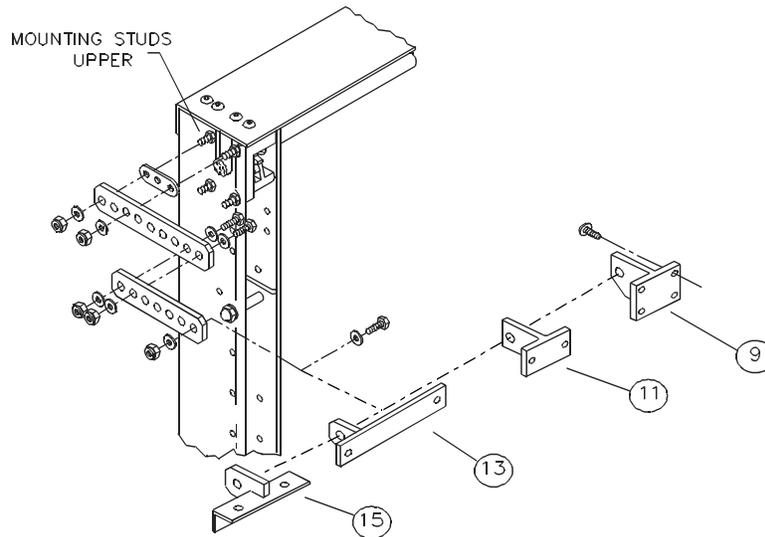

FIGURE 2-14: INTERMEDIATE AND MOUNTING BRACKET INSTALLATION
- d. For vans with sliding door installation, refer to **Figure 2-14**. With 5/16-18 hex bolts, 5/16 flat washers, and 5/16-18 self-locking nuts, loosely install intermediate brackets to end of extension brackets.